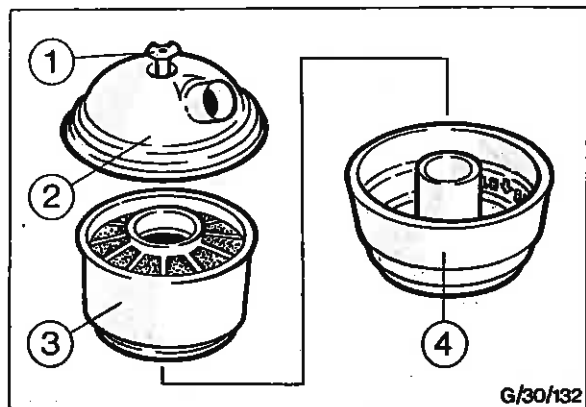

Fig. 7 - Oil Bath Air Cleaner
2. Remove wing bolt (Fig. 7) and detach complete air cleaner assembly from engine.